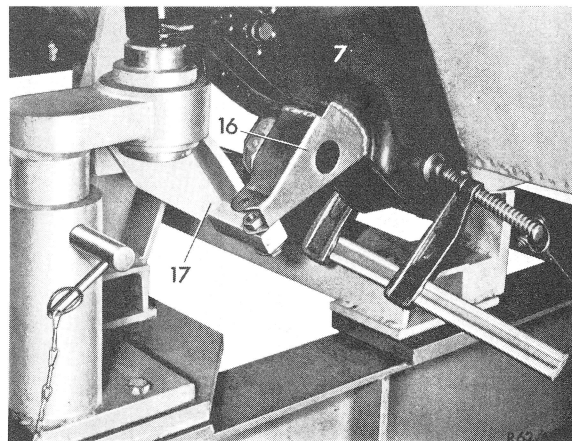

Fig. 9
22 Fit bracket (16) for steering damper to side member (7), screw to support (17) and weld to side member (Fig. 9).